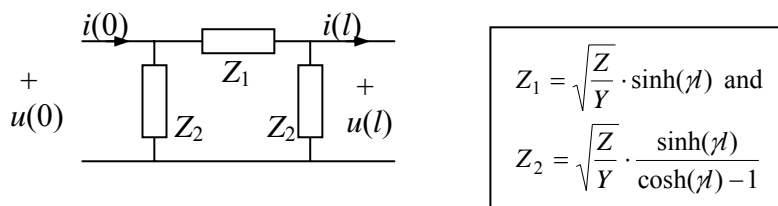

Fig. 7.4 – Exact PI-equivalent
Due to the present quadratic term, the result in (13) will be less accurate than for distributed parameters models. Care must be taken to prevent wrong results for long transmission lines. For example by splitting the line up in smaller segments. In constant parameter distributed parameter line models the series resistance (\$R\$) is concentrated at each end (\$R/4\$) and at the middle of the line (\$R/2\$). This will result in some different formulations than in (13), with accuracy dependent on \$R\$. A solution to this problem is to request 'EXACT PHASOR EQUIVALENT' [2, 3] which prevents ATP from using lumped resistance. In such case the "exact pi" equivalent is used (as is also the case for frequency dependent transmission line models in ATP). The exact PI-equivalent is on the form shown in Fig. 7.4.